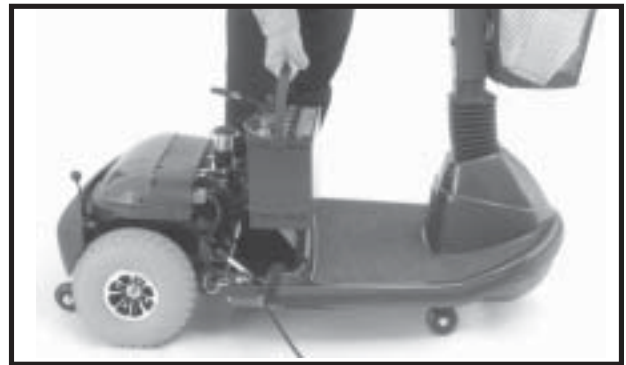

Figure 21. Battery Removal
8. Lift both batteries off the scooter. See figure 21.